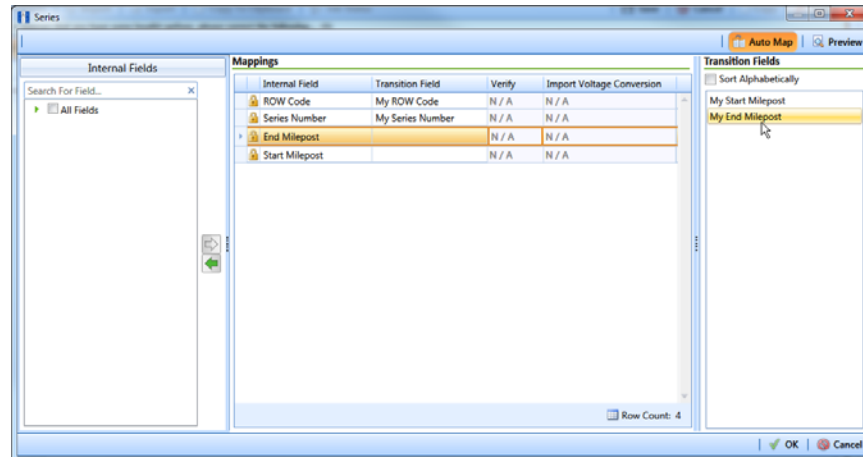

Figure 9-52. Field Mappings
- a** Click  **Edit** in the *Maps* group box to open a field mapping window (Figure 9-52, page 439).
NOTE: Fields in the *Mappings* panel with a lock icon  are required fields for mapping, such as *ROW Code*, *Series*, *End Milepost*, and *Start Milepost* shown in Figure 9-52 (page 439).